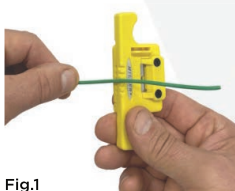

Fig.1
2. Use the sizing channels on the top of the tool to determine which slot on the tool to use. Starting with the smallest channel (#5) find the first slot the tube will seat fully into. Then use the corresponding channel inside the tool (*Fig.1*)